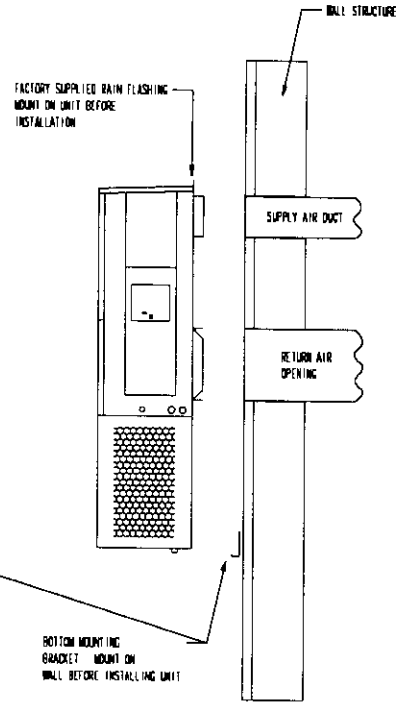

Figure 4 — Wall-Mounting Instructions
2. On wood-frame walls, the wall construction must be strong and rigid enough to carry the weight of the unit without transmitting any unit vibration. See Figures 4 and 5.
3. Concrete block walls must be thoroughly inspected to insure that they are capable of carrying the weight of the installing unit. See Figure 4.